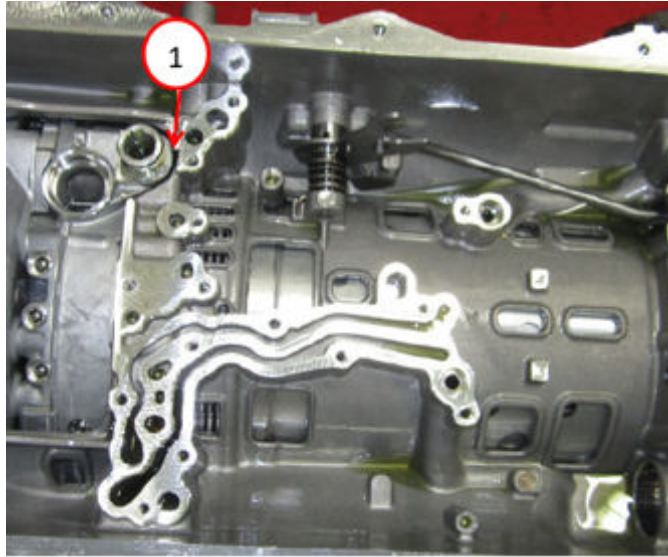

Fig. 15
24. Carefully pry the oil pump housing away from the case using a small flat blade screwdriver or equivalent through the case opening Fig. 15.